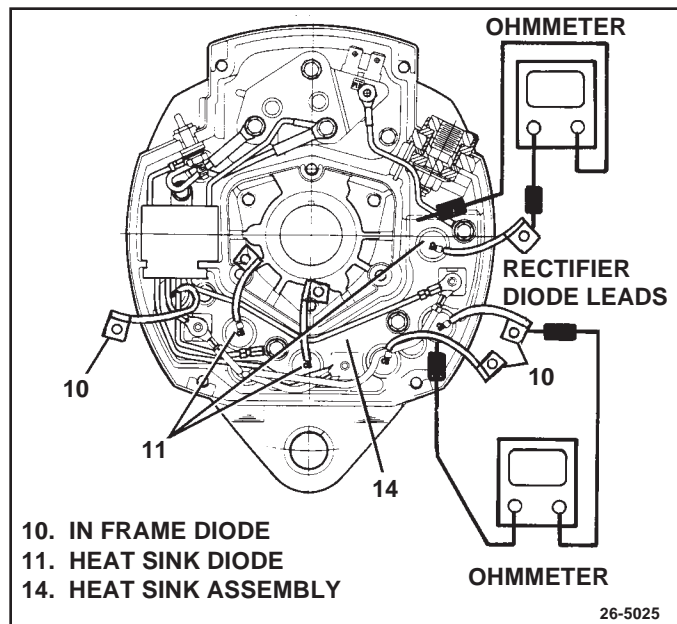

Figure 17. Checking Rectifier Diodes
8. Disconnect the 6 diode leads from the 3 diode junction studs by removing nuts. (See Fig. 17) Find the three output side diodes (11), which are installed in the heat sink (12). These diodes will be identical in polarity and will commonly have the same color of insulation on the diode lead wire.
9. Find the three ground side diodes (10) mounted in the rectifier end housing (1). (See Fig. 17) These diodes will be identical in polarity and will commonly have the same color of insulation on the diode lead wire. Repeat the diode check described above (Step 8), except use clean metal ground on the rectifier housing instead of the heat sink. Refer to Fig. 18 to determine proper polarity.